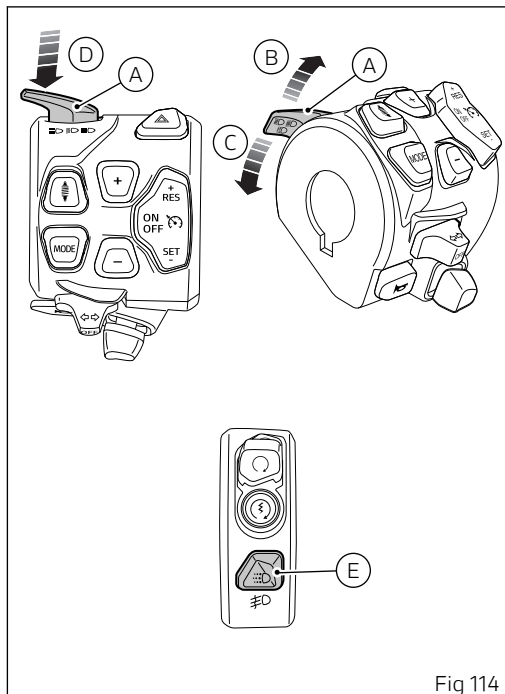

Fig 114
When the DRL is set to "Auto" mode, the corresponding warning light will turn on. If the DRL was set to "Auto" mode, press button (E, Fig 114) to disable that mode and set manual light management. Press again button (E, Fig 114) to re-enable DRL but with control strategy set to "Manual". In this case, upon next Key-On, DRL will be again set to "Auto" mode.
If the DRL lights are in this mode, as set through the "DRL" function within the "Setting menu" (page 271) DRL lights will not change their status upon key-on. To switch on or off the DRL lights, it is necessary to press button (E, Fig 114).
- if DRL lights are present, press and hold button (E, Fig 114) for a long time;
- if DRL lights are not present, press button (E, Fig 114).